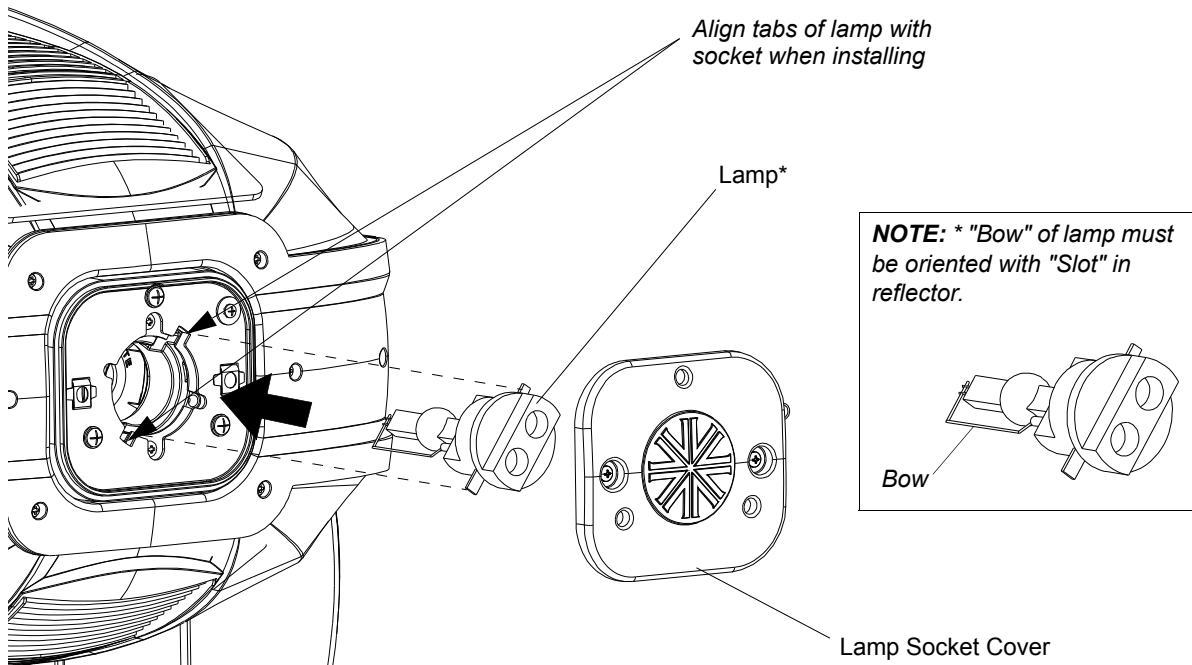

Figure 2-2: Lamp Installation
- Step 5. To remove lamp, grasp lamp base by hand, twist lamp counter-clockwise until lamp's tabs align with slots in lamp socket (see Figure 2-2 on page 13 for more information), and remove lamp by pulling it straight out of socket.
- Step 7. As shown in Figure 2-2, align replacement lamp tabs with lamp socket.